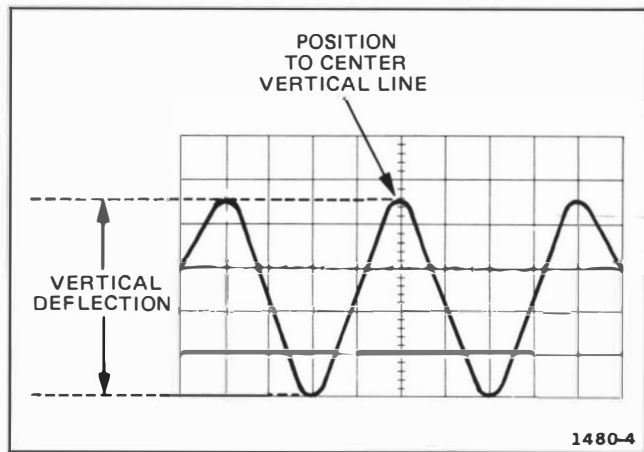

Fig. 10. Peak to peak voltage of a waveform.
portion coincides with a graticule line and the upper portion is in the viewing area. Horizontally position the display so one of the upper peaks lies near the center vertical line (see Fig. 10).
**EXAMPLE:** The peak-to-peak vertical deflection measured is 4.6 divisions (see Fig. 10) with the VOLTS-mA/DIV control set at .5.